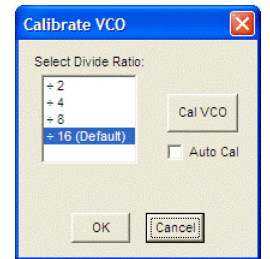

Figure 19. Calibrate VCO Window
14. Click the blinking yellow **Cal VCO** button to load the VCO calibration window. The default VCO divide ratio (16) works for all applications. Click the **Cal VCO** button in the **Calibrate VCO** window to begin calibration (see Figure 19). The PLL should now be locked and the lock detect (LD) LED on the left side of the board should be on.
The **Calibrate VCO** window shown in Figure 19 is accessed by clicking the **Cal VCO** button on the main window.